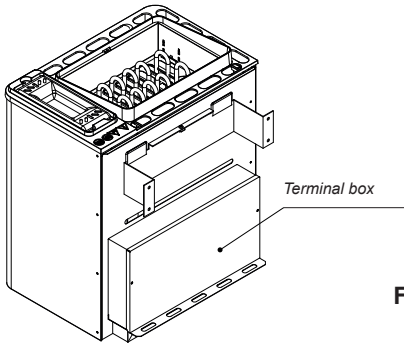

Fig. 4
3. Close the terminal box with the cover, distance holder facing outwards. Use 2 screws for this (Fig. 4)